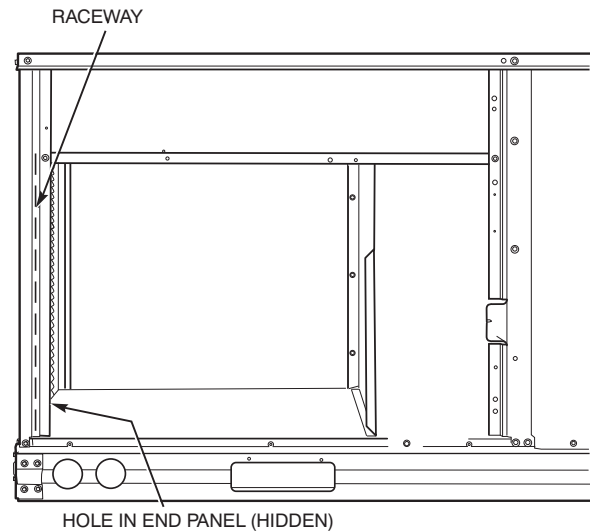

Fig. 27 — Field Control Wiring Raceway
Pass the thermostat control wires through the hole provided in the corner post; then feed the wires through the raceway built into the corner post to the control box. Pull the wires over to the terminal strip on the upper-left corner of the Unit Control Board. See Fig. 27.
2. Feed wires through the raceway built into the corner post (see Fig. 27) to the 24v barrier located on the left side of the control box. The raceway provides the UL-required clearance between high-voltage and low-voltage wiring.
2. Feed wires through the raceway built into the corner post (see Fig. 27) to the 24-v barrier located on the left side of the control box. The raceway provides the UL-required clearance between high-voltage and low-voltage wiring.